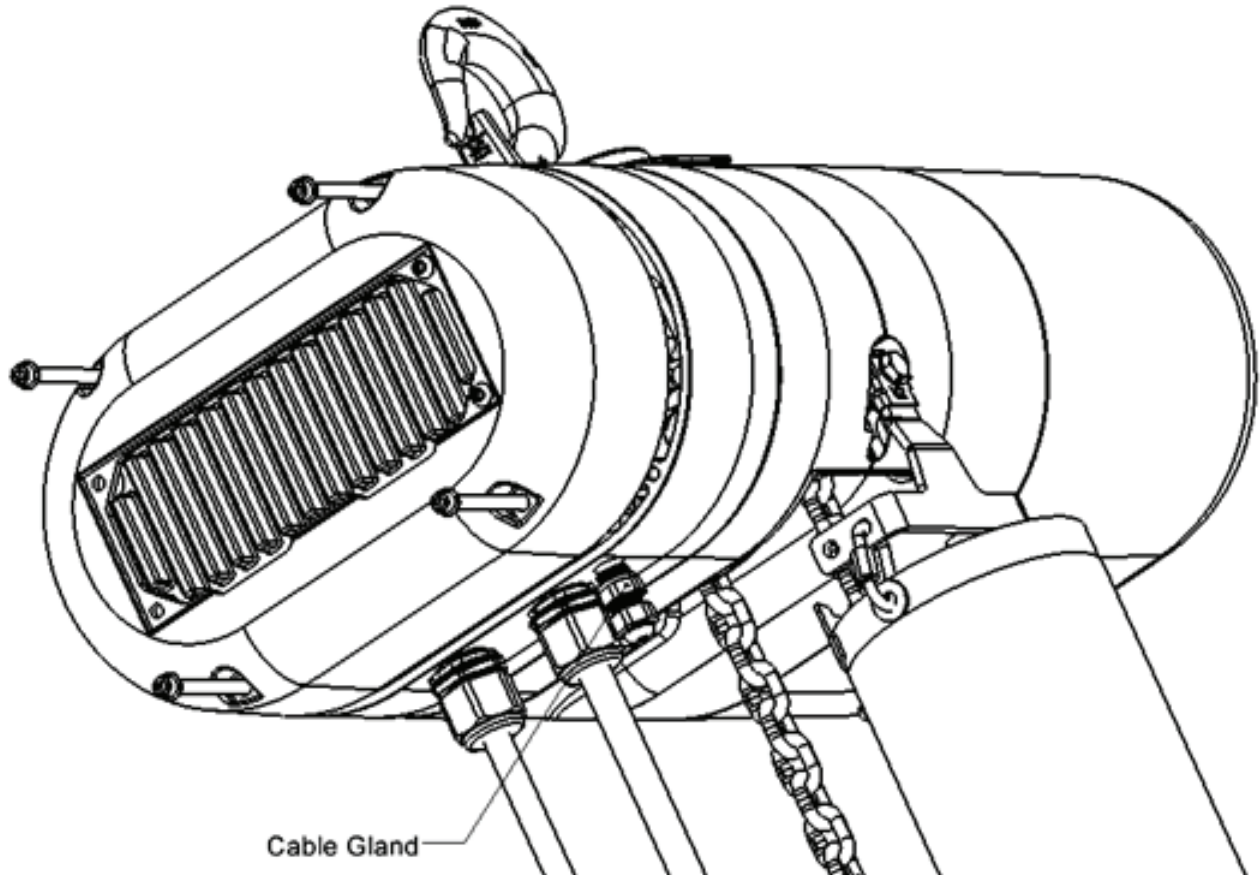

Figure 13: Cable Gland Installation
4. Install the free end RJ45 of the ethernet cable and gland into the now open M16 threaded hole in the hoist from the outside (shown in **Figure 13**). Tighten base of gland (not gland dome nut) finger-tight plus 1/4 to 1/3 turn. **Make sure the O-ring does not twist.** *The angled RJ45 connector will be a tight fit through the threaded hole and will scar the RJ45 molding.*